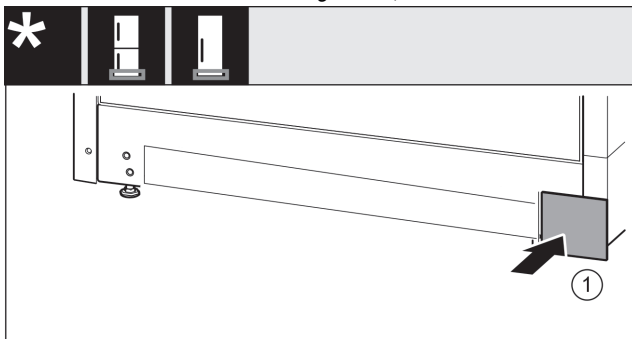

Fig. 19
- ▶ Put back the cover on the other side. Fig. 19 (1)